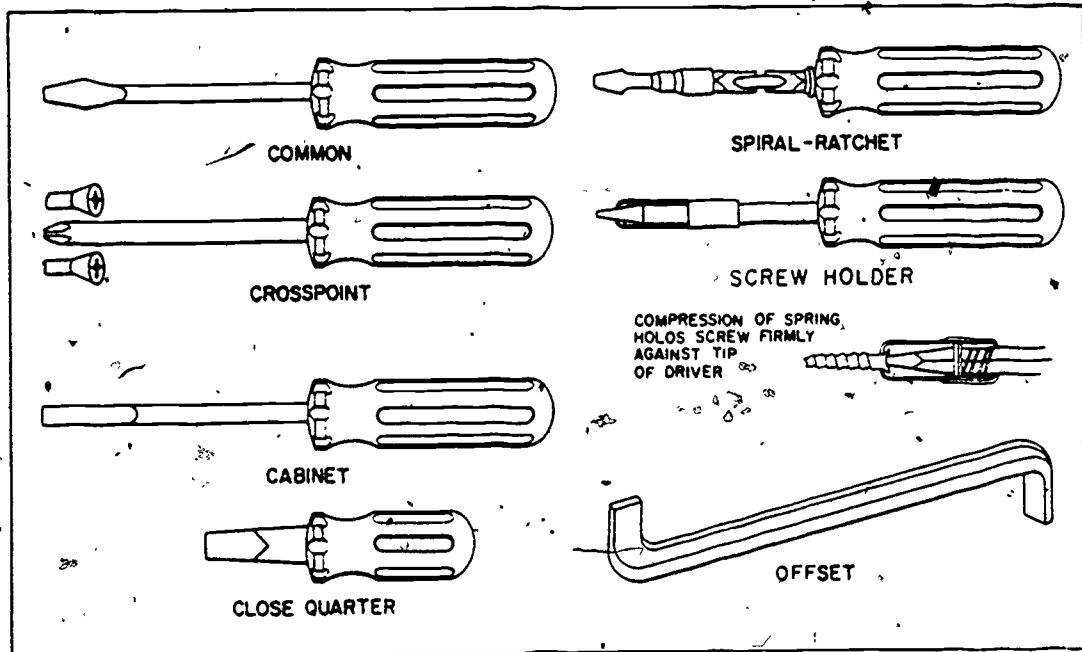

Figure 3-18 Various types of screwdrivers
**Screwdrivers.** Screwdrivers are tools for driving or removing screws. Figure 3-18 shows several types of screwdrivers. The two common types used by the plumber are the standard and the cross-point (Phillips). The standard screwdriver blade must have sharp corners and fit the slot in the screw closely. It should be held firmly against the screw to prevent it,